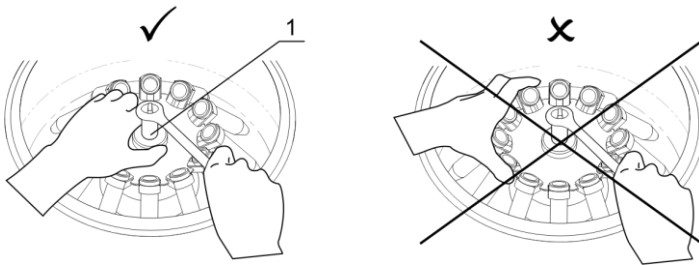

Figure 2. Rotor fixation
- Hold the rotor with one hand and, using the supplied wrench for rotor replacement (13 mm), turn the fixation screw (fig. 2/1) counter clockwise to release the rotor.
Caution! Do not hold the rotor by rings or adapters mounting when mounting and fixing it. Hold the rotor as shown on figure 2 (✓).
Caution! Always ensure that the fixation screw on the rotor is holding the rotor tight! See 4.4 and figure 2 for fixation procedure.